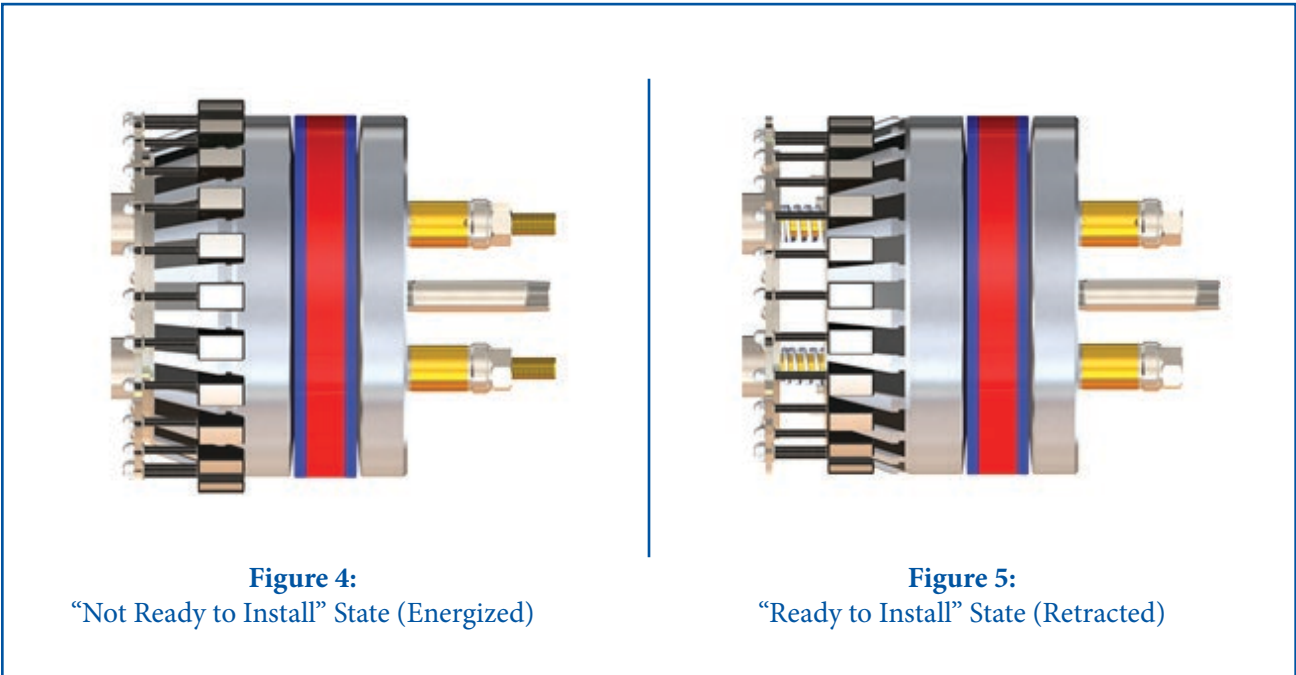

Figure 4:
- In the “Not Ready to Install” state (see **Figure 4**), the *GripSafe plug’s Wedge Grippers(3)*, will obstruct insertion into the pipe.